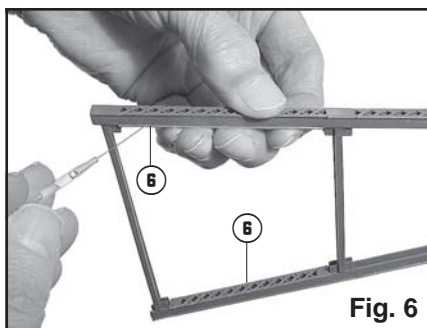

Fig. 6
To assemble, pick up the bent assembly and hold part (6) against the bent edges, with its ribs outside each bent half. Apply cement along one edge at a time. See Fig. 6.
Assemble as in step 5. See Fig. 6.